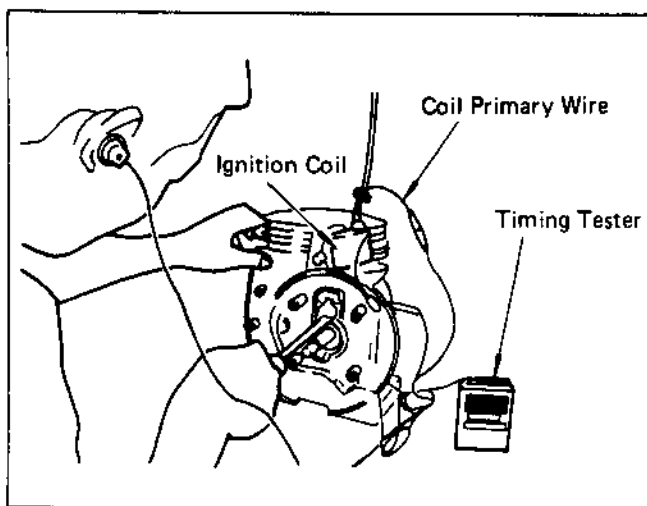

Fig. 48
The spark is timed to occur at 23° before the piston reaches TDC on the compression stroke. This spark advance of 23° is controlled by the breaker point opening and this advance is obtained when the breaker point opening is adjusted according to the BREAKER POINT ADJUSTMENT to its proper point opening. However, the advance timing is more accurately adjusted through the following procedures using a timing tester as shown in Fig. 48.
- 3) Connect the timing tester lead with red rubber cap to the coil primary wire and ground the lead with black rubber cap to the crankcase. (See Fig. 48.)
While the points are open, the buzzer within tester remains ringing and when the points are closed, the tester remains silent. (See Fig. 48.)
- 7) By rotating the support plate of the breaker point, find the exact point when the buzzer within timing tester starts ringing from being silent. (See Figs. 48 and 49.)